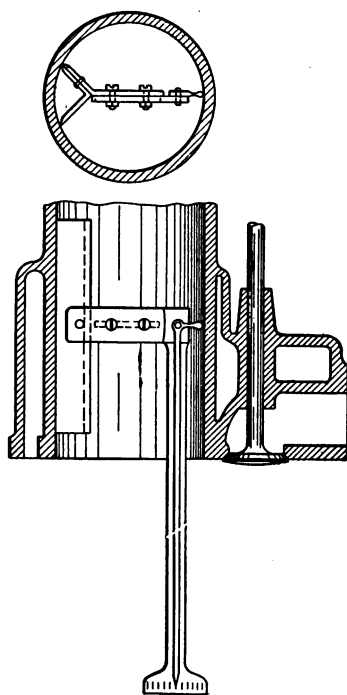

Fig. 30. Construction of Simple Rig for Measuring Worn Cylinder Bores
**Checking Up Cylinder Bore.** Before any work is done upon the cylinder bore, such as turning, grinding, etc., it should be checked up very carefully. An expert workman, accustomed to the tool, would use an inside micrometer, but when this tool is lacking, as well as the experience necessary to use it, a fairly simple tool which can be used by almost anyone may be constructed as follows: As shown in Fig. 30, a short angle iron forms one side of the bore-measuring part; its length is sufficient to keep the entire tool perfectly vertical when the cylinder is vertical, and thus gives an accurate right-angle measurement of the bore. A central arm is fastened to this and the framework adjustably